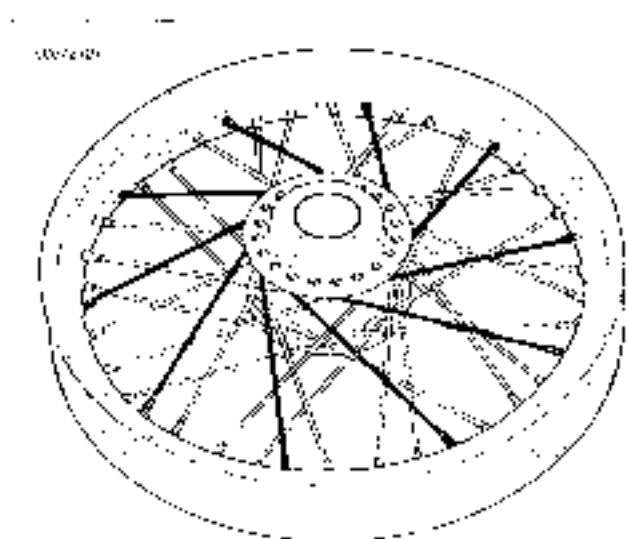

Figure 2-41. Completed Spokes-Top Flange Outer
- See Figure 2-41. Verify spoke reaches sock nipple and secure spoke by hand. Follow pattern to complete top flange outer spokes (short head).